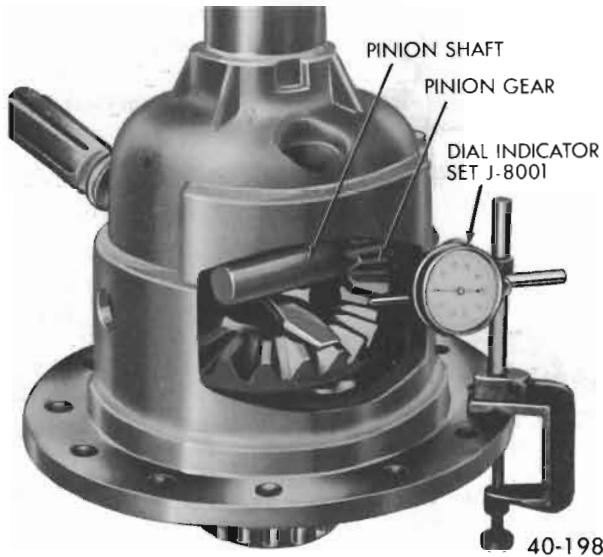

Figure 40-139 Checking Side Gear to Pinion Gear Backlash
6. Check the pinion to side gear backlash as follows: a. Compress one clutch pack by inserting screwdriver or wedge between the cross shaft and side gear. See Figure 40-139.